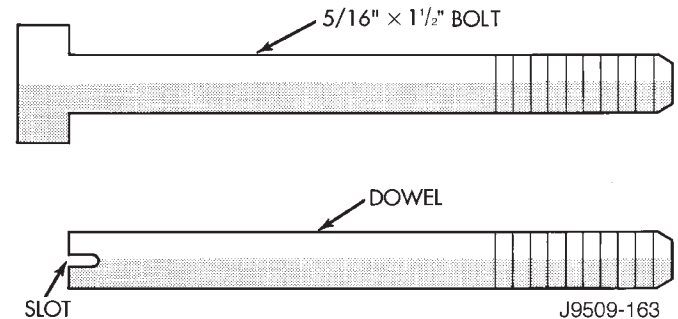

Fig. 45 Fabrication of Alignment Dowels
(1) Fabricate 4 alignment dowels from 5/16 x 1 1/2 inch bolts. Cut the head off the bolts and cut a slot into the top of the dowel. This will allow easier installation and removal with a screwdriver (Fig. 45).